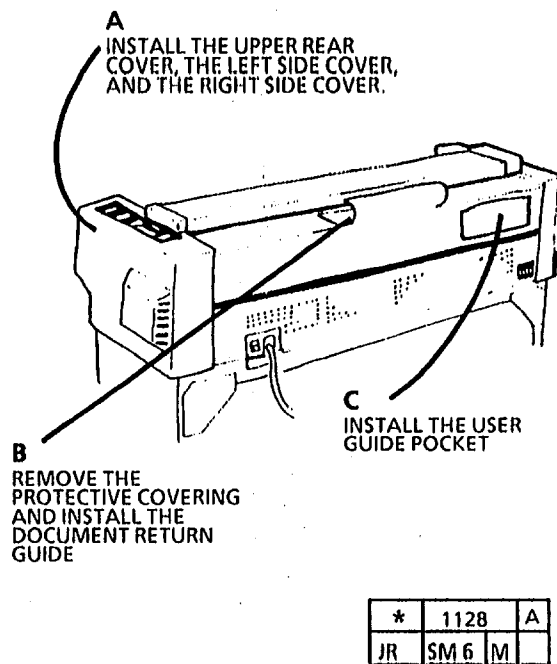

Figure 28. Installing the Document Return Guide and the User Guide Pocket
42. (Figure 28): Install covers and the user guide pocket.